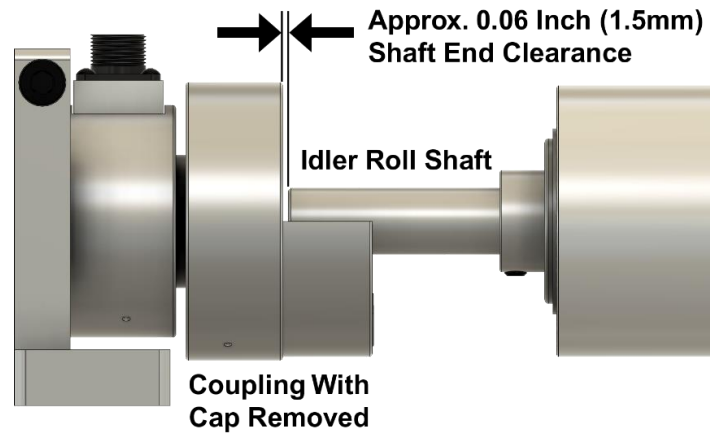

Figure 6 - SHAFT END CLEARANCE
Measure the distance between the machine frames (D) where the transducers will be mounted. Use the appropriate formula below to determine the correct shaft length. The formulas allow approximately 1/16-inch (1.5 mm) clearance at both shaft ends. This clearance is necessary for proper operation and for ease of installation and removal. **Do not allow the shaft to contact the bottom of the bore** (see Figure 6).
4. Adjust the shaft depth to allow approximately 1/16-inch (1.5 mm) end clearance in **one transducer only** (see Figure 6). Tighten the cap screws to clamp the shaft into the transducer coupling. **Do not tighten the cap screws on the other transducer yet.** This must be done later in Section 2.3.5 - *Tighten The Loose Transducer Coupling.*
3. Position the idler shaft in the transducers to allow approximately 1/16-inch (1.5 mm) end clearance in **one transducer only** (See Figure 6).